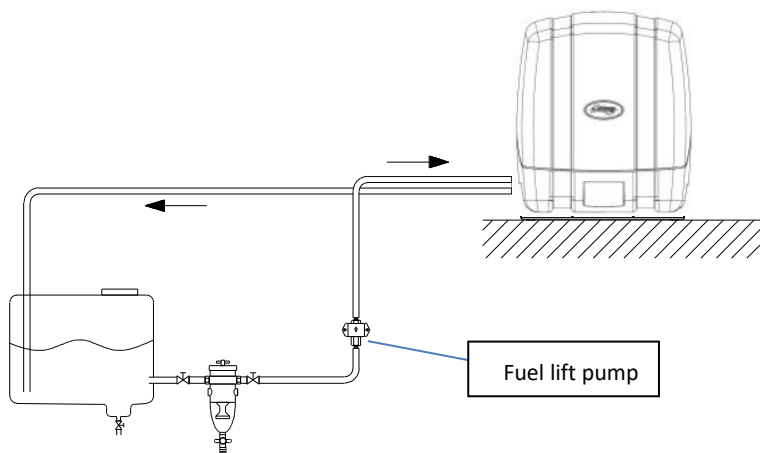

Figure 3: Fuel supply (fuel tank is below the generator)
Apart from the machine fuel pump, the generating set is supplied with a separate fuel lift pump; therefore the tank can be installed at a lower level than the generating set (see Figure 3). The maximum suction height is 1 m.
When the return is on the top - in case of a leakage the return line cannot overflow because of siphoning. One will only need a fuel cock in the fuel supply line. When the tank is below the generating set (Figure 3) we recommend ending the return line on the bottom of the tank (A) below the inlet of the supply line. In this way the fuel cannot drain back into the tank when the engine is stopped; as the return line will not let air in. This prevents starting trouble caused by air in the fuel supply line.